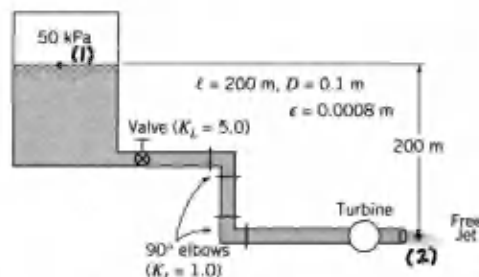

FIGURE P8.15R
8.15R (Single pipe with turbine) Water drains from a pressurized tank through a pipe system as shown in Fig. P8.15R. The head of the turbine is equal to 116 m. If entrance effects are negligible, determine the flow rate.